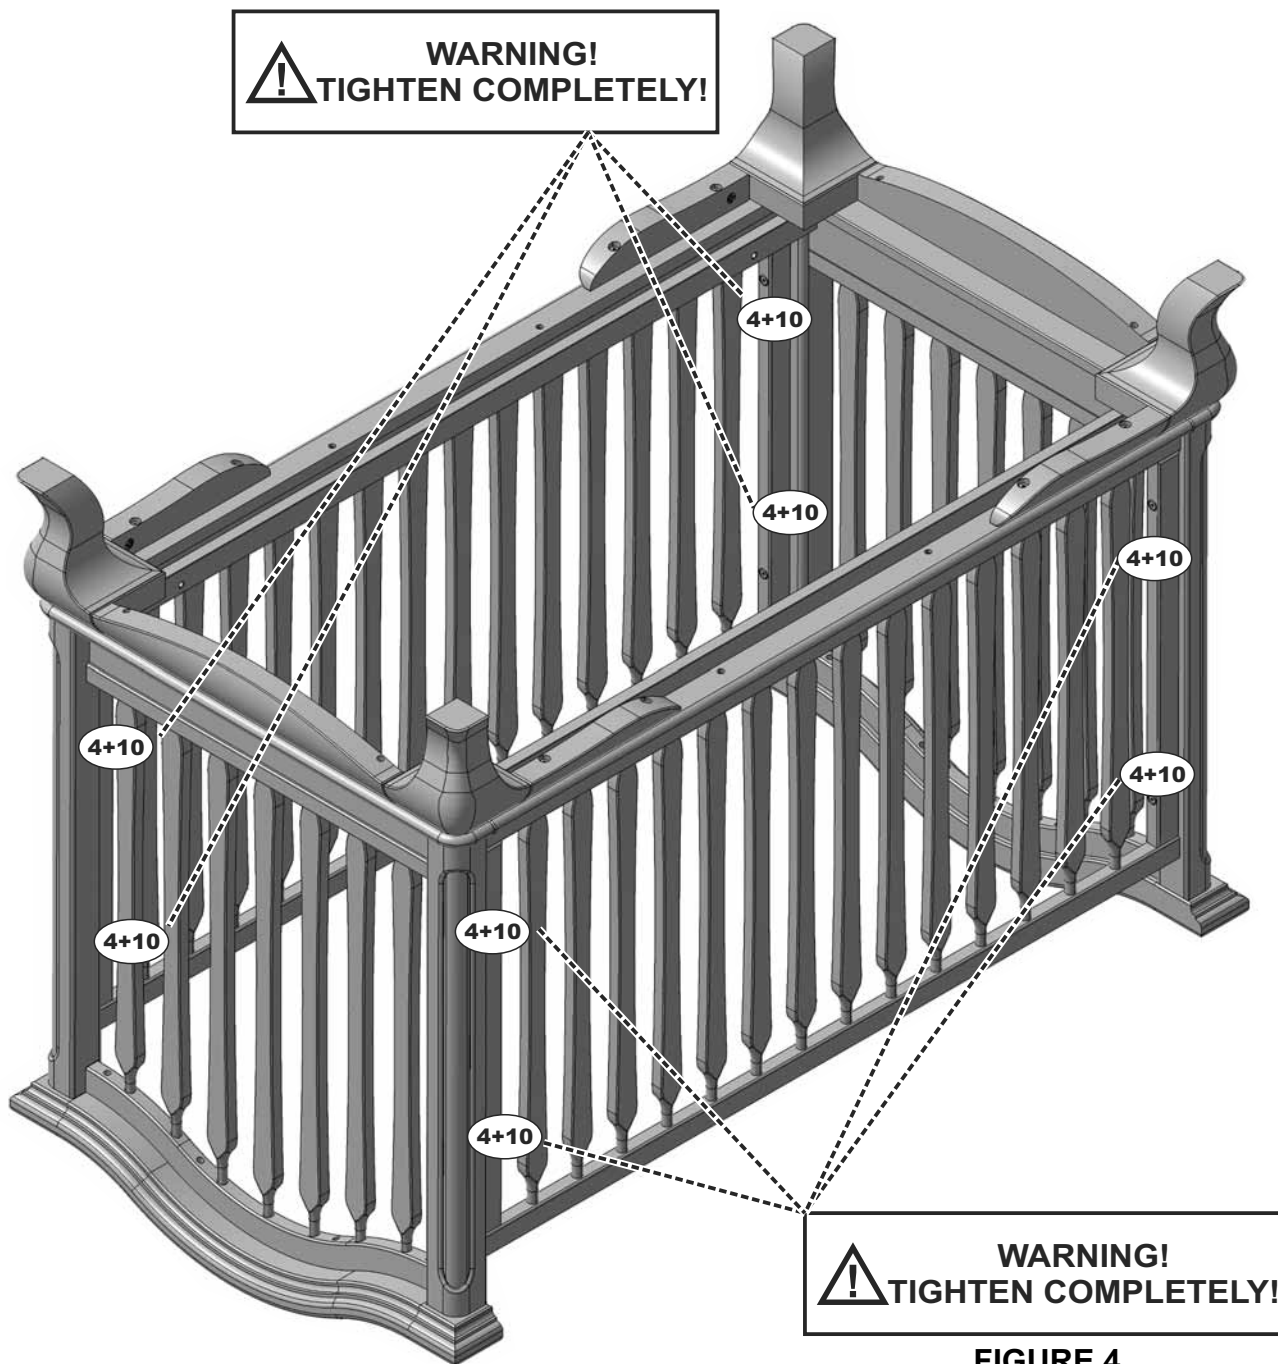

FIGURE 4
Using the supplied Allen wrench (1), **you must tighten completely** all the **8 bigger Allen bolts (4+10)** involved in stationary sides fixing, remained untighten from **STEP 1** (see **FIGURE 4**).